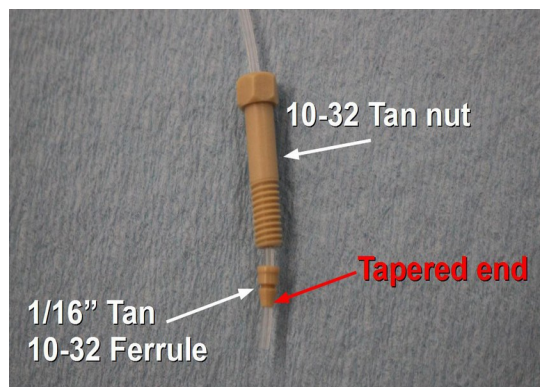

Figure 1: Orientation of the *Tan Ferrule* and *Tan Nut* on the *FEP tubing*.
**The 1/16" Tan 10-32 Ferrule (347113) and the 10-32 Tan Nut (346201):** Slide the *Tan Nut* onto the *FEP Tubing* so that the threaded end is closest to the end of the tubing. Orient the *Tan Ferrule* onto the tubing so that the tapered end is pointing toward the end of the tubing and the flat end is pointing toward the *Tan Nut* (**Figure 1**). **Note:** When installing and tightening these fittings, be sure to push the tubing all of the way into the valve ports.